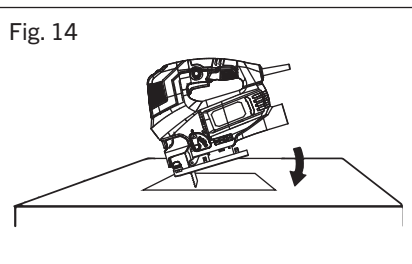

Fig. 14
3. Tilt the jig saw forward so it rests on the front edge of the base plate and in a position where the blade will NOT touch the workpiece when the switch is turned ON (Fig. 14).